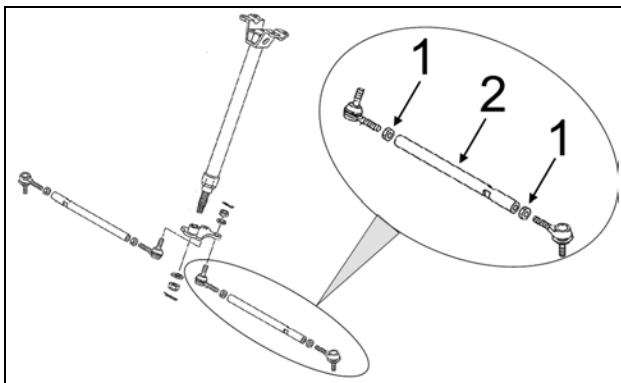
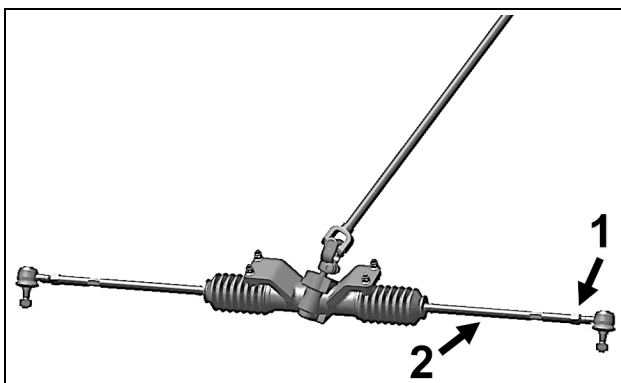

Figure 20
Figure 21
To adjust the vehicle's steering system, first loosen coupling rod nuts (1), then screw or unscrew the coupling rod (2) an equal number of revolutions on both sides of the vehicle. Retighten nuts when adjustment is complete. See Figure 20 or Figure 21.